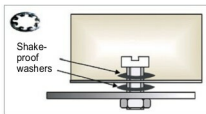

Fig. 24: Bonding of protective wire
**Bonding of internal protective earth wires.** Earth conductors of modules housed in non-metallic enclosures, installed inside a cabinet, have to be connected to local ground reference or mounting plates or chassis. In such cases, a captive nut-and-screw arrangement is useful as shown in Fig. 24. The captive nut is welded on the other side of the mounting plate, and the earth conductor with a lug is fixed by a screw that slides through this nut.